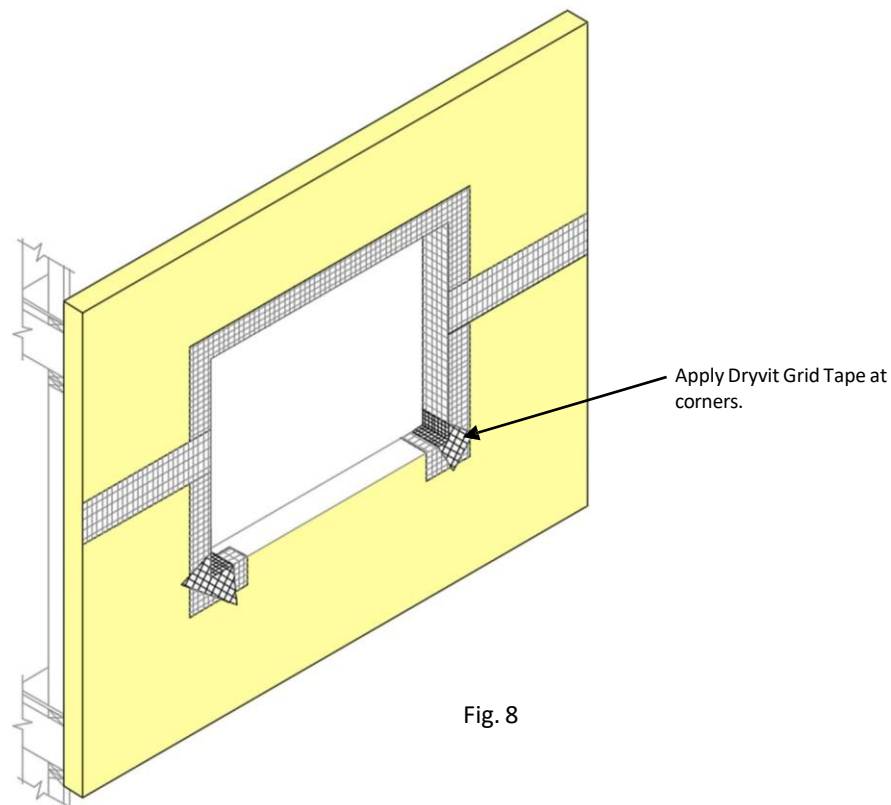

Fig. 8
- 1) Apply Dryvit Grid Tape along the jambs and head of the opening as well as all sheathing joints that may intersect the opening and lap onto face of wall a minimum of 2 in (51 mm). Add additional pieces of Grid Tape at the inside corners of the opening to maintain continuity – Figure 8.